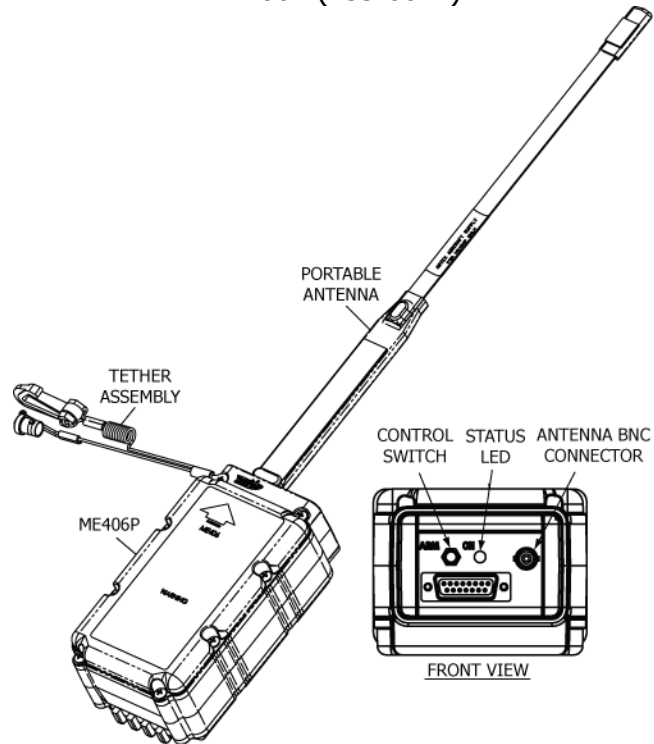

Figure 8 ME406P Portable Configuration
- 1) See Figure 8 ME406P Portable Configuration on page 24.